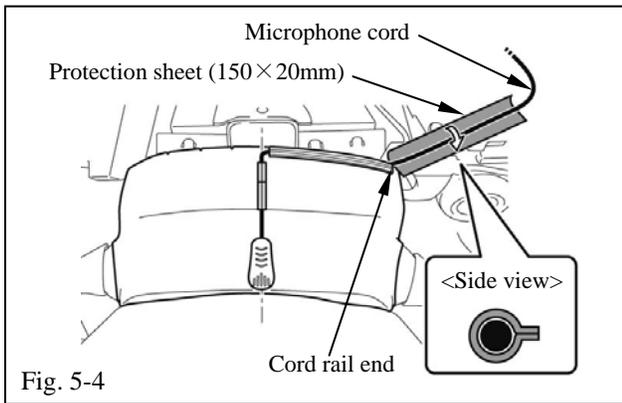

Fig. 5-4
- (2) Wrap the protection sheet around the microphone cord from the end of the cord rail so as to not leave a gap between the cord rail and the protection sheet (Fig. 5-4).
- (3) Remove the microphone cord from the cord rails (Fig. 5-4).